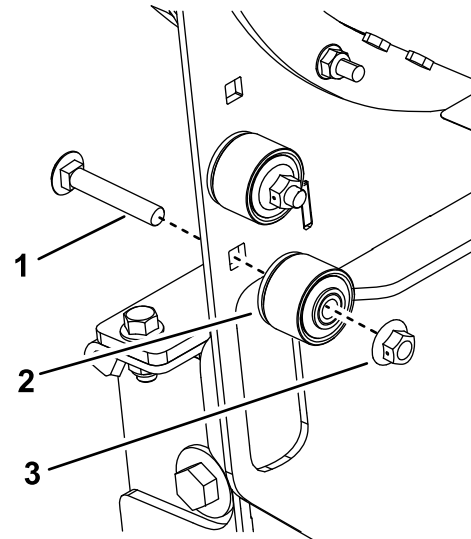

Figure 26
- Use the fasteners to store the bushing assemblies on the left side of the blower frame (Figure 26).